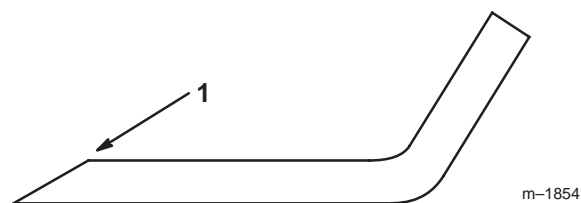

Figure 48
1. Use a file to sharpen the cutting edge at both ends of the blade (Fig. 48). Maintain the original angle. The blade retains its balance if the same amount of material is removed from both cutting edges.